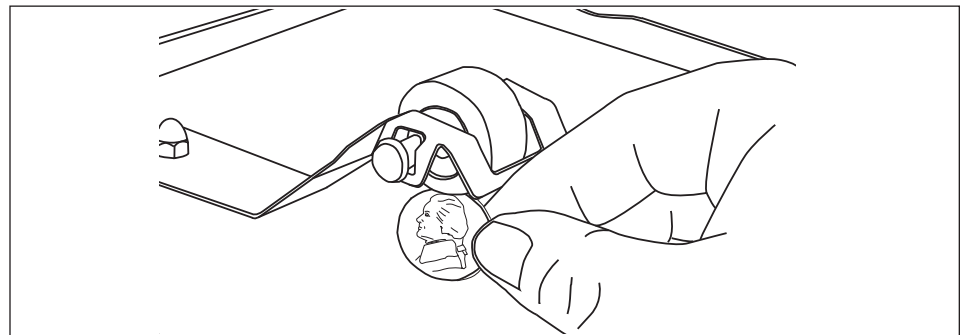

Figure 11. Measuring Roller Tensioner
1. Measure the Roller Tensioner on both inner Conveyor Covers (Figure 11) using a U.S. Nickel.